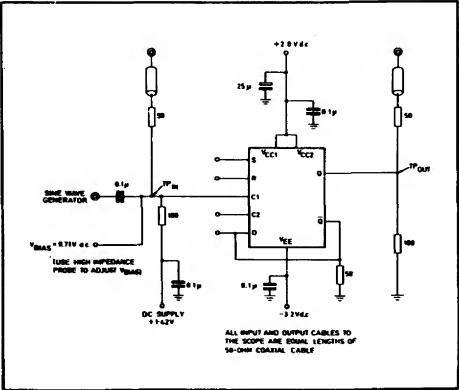
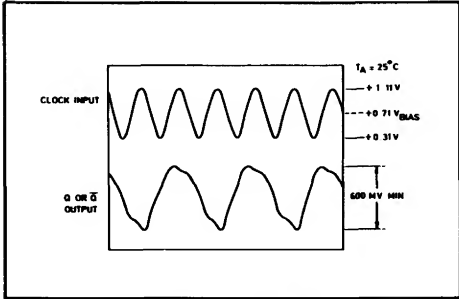

Fig. 7 Toggle frequency test circuit
Fig. 8 Toggle frequency waveforms
2. The device ceases to toggle (divide by two).  $V_{Bias}$  is defined by the test circuit Fig. 7 and by the waveform in Fig. 8.